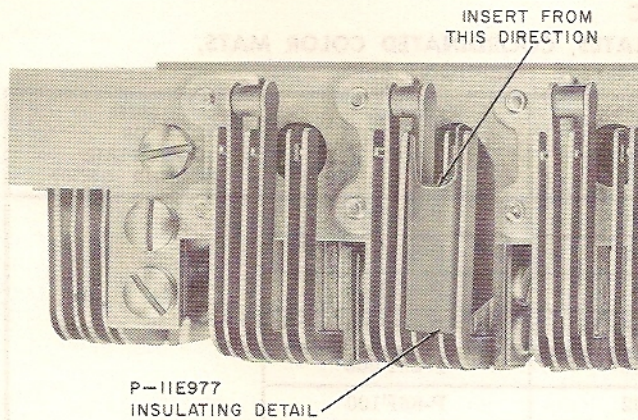

Fig. 6 — Position of P-11E977 Insulating Detail When Converting Pickup Button of a 598- or 599-Type Key To Signaling
3.02 When converting a line pickup key to signaling (nonlocking), remove P-10E837 screw from plunger shaft and slide a P-11E977 insulating detail squared end first, between the contacts of the spring pile-up adjacent to the key plunger (Fig. 6).